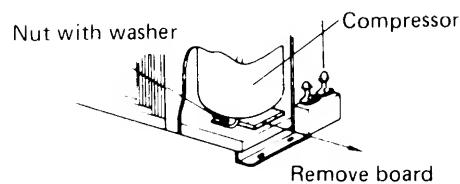

Fig. 35
- d) Check to see if compressor mounting bracket or board, which secures compressor during transportation, is removed. If not, remove them. Fig. 35